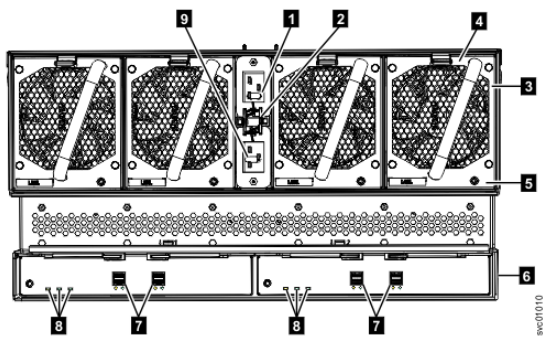
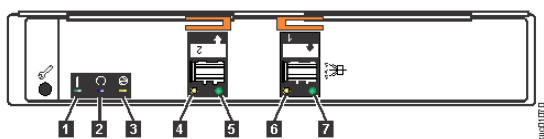

Figure 185. LEDs on the back of the expansion enclosure
Figure 186. LEDs on the back of the expansion canister
Table 68 on page 222 explains the function and status that is indicated by each of the LEDs. The power cords for each PSU are accessible from the rear of the expansion enclosure (1), as shown in Figure 185 on page 224.
Figure 185 on page 224 shows the rear view of a expansion enclosure. LEDs on the rear of the enclosure provide information about each fan module, each expansion canister, and SAS links.
The expansion enclosure has four fans. Each fan has one LED; for example, Figure 185 on page 224 shows the location of the LED (5) for fan number four. When a fan is operating normally, the LED is not lit. If a fault is detected, the amber LED is lit.
As Figure 185 on page 224 also shows, the expansion enclosure contains two expansion canisters. Each expansion canister contains its own set of LEDs, as shown in Figure 186 on page 224. The LEDs provide status information about the expansion canister itself and the SAS connections.